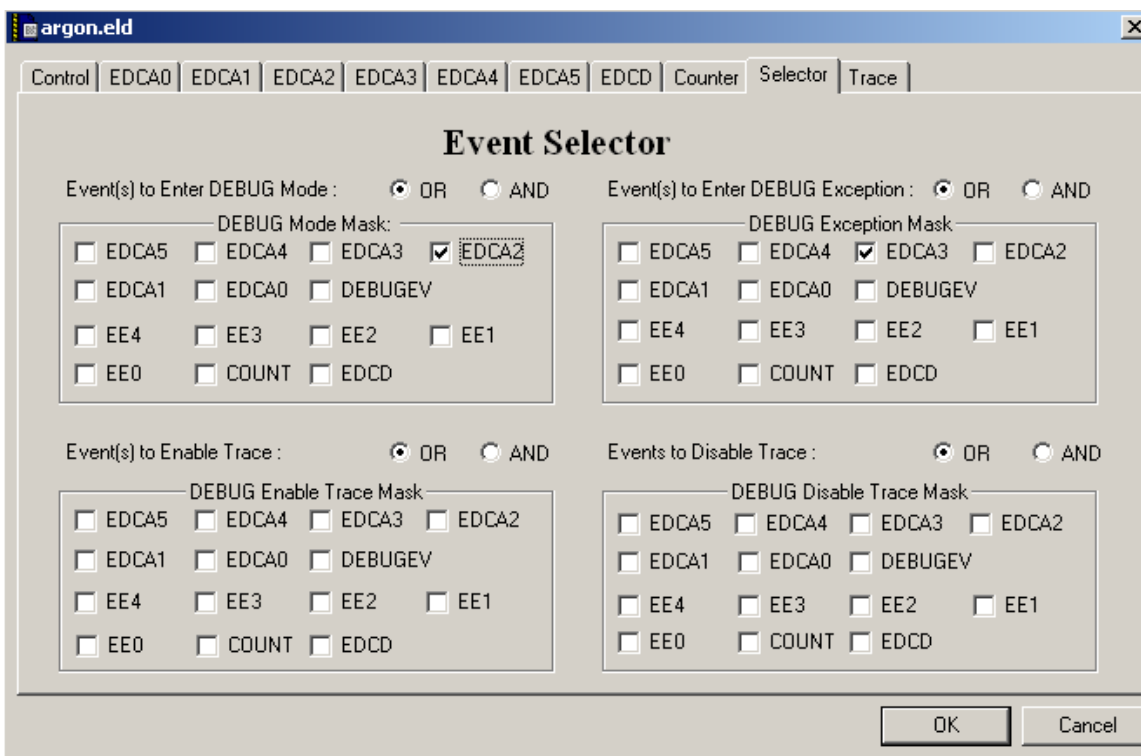

Figure 25: EOnCE Event Selector
- i. In the EOnCE configuration menu select the Selector Tab (see Figure 25: EOnCE Event Selector)